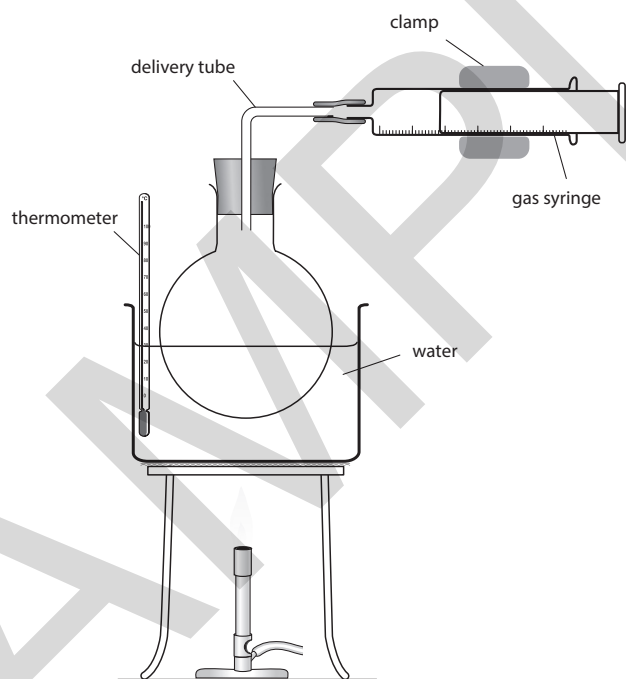

Figure 2.1
- Set up apparatus as shown in Figure 2.1.